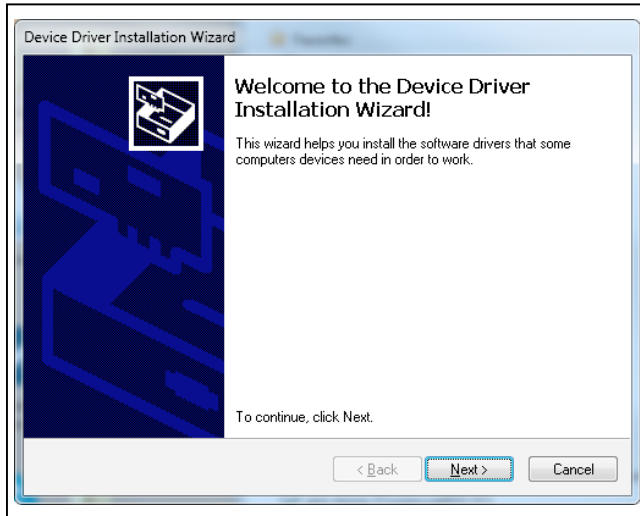

Figure 7. Driver Install (Step 1)
- 5) During the installation procedure, the Device Driver Installation Wizard is executed. Click **Next** to start the installation of the drivers (Figure 7).